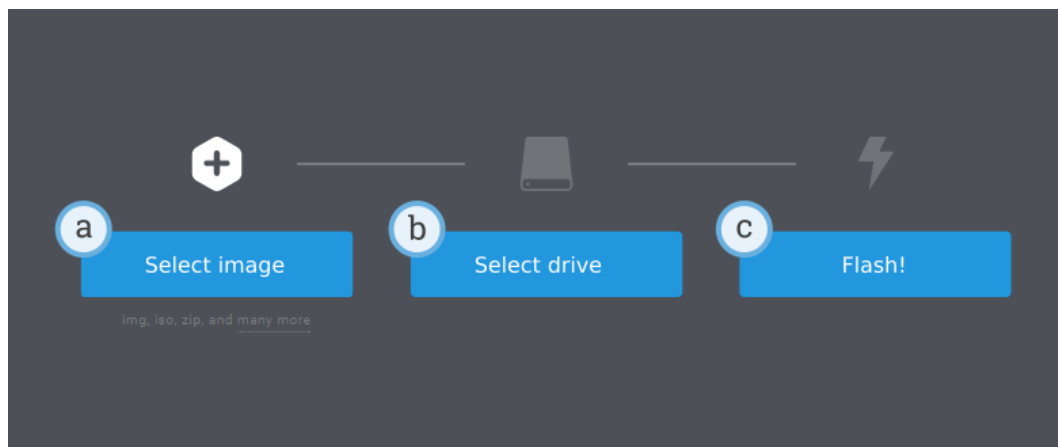

Figure 1.3: Using Etcher to flash the EV3 MicroPython microSD card image
4. Launch the flashing tool and follow the steps on your screen to install the file you have just downloaded. If you use Etcher, you can follow the instructions below, as shown in Figure 1.3.